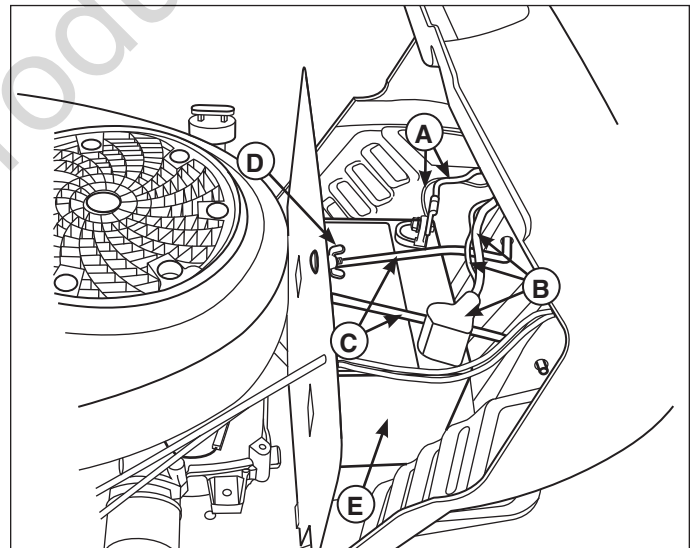

Figure 12
1. Disconnect the cables from the battery, negative cables first (**A**, Figure 12) then the cover and positive cables (**B**).